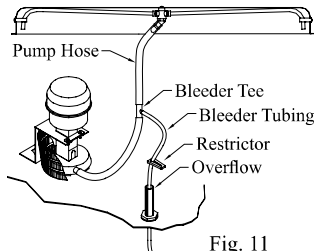

Fig. 11
- **Install Bleeder Tee and Tubing.** Refer to figure 11. Cut the pump hose and insert the barbed ends of the bleeder tee into each cut end. Insert one end of the bleeder tubing onto the bleeder tee and run the other end out of the cooler through the overflow pipe. **Note:** A restrictor clamp is provided which, if desired, may be installed onto the bleeder tubing to restrict the amount of water being bleed off. The amount of water to bleed off depends on the quality of the water in your area. Start with 1-2 gal/hr and increase if needed.